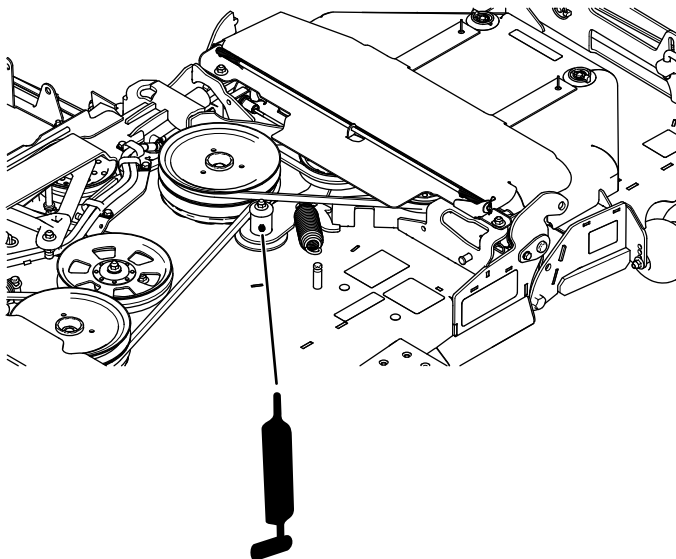

Figure 39
4. Grease the 2 drive belt idler arms (Figure 39).